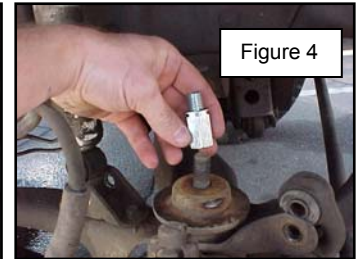

Figure 4
7. Install the corresponding Stud Extensions (if needed) onto the coil spring lower clamp stud and install the coil spring spacer onto the coil spring pad. See figure 4.